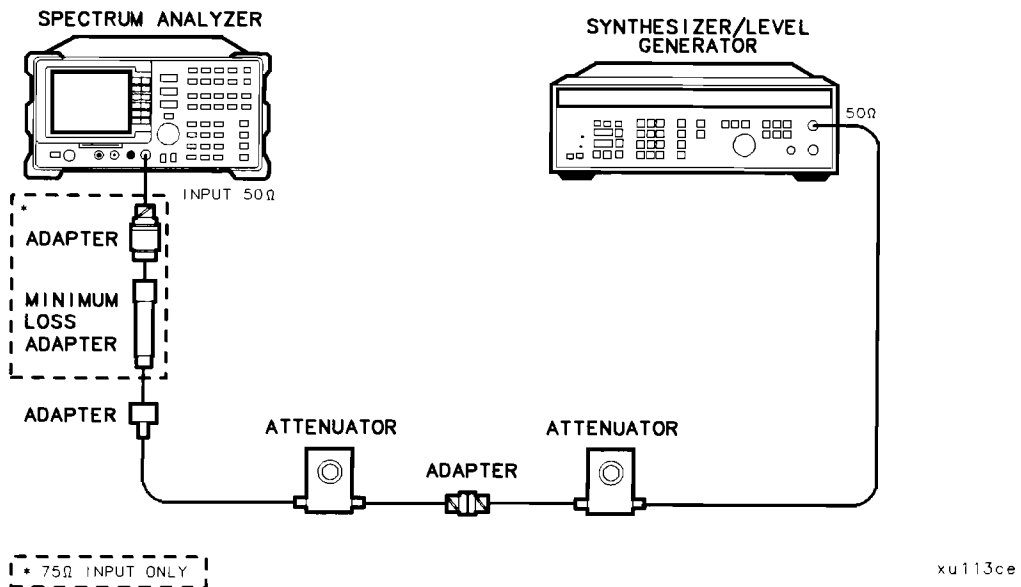

Figure 2-17. For HP 8591E Only - Scale Fidelity Test Setup
2. Connect the equipment as shown in Figure 2-17. Set the 10 dB step attenuator to 10 dB attenuation and the 1 dB step attenuator to 0 dB attenuation.